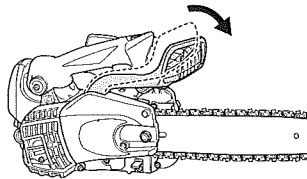

Fig. 12
1. Make sure chain brake is engaged. (Fig. 12)